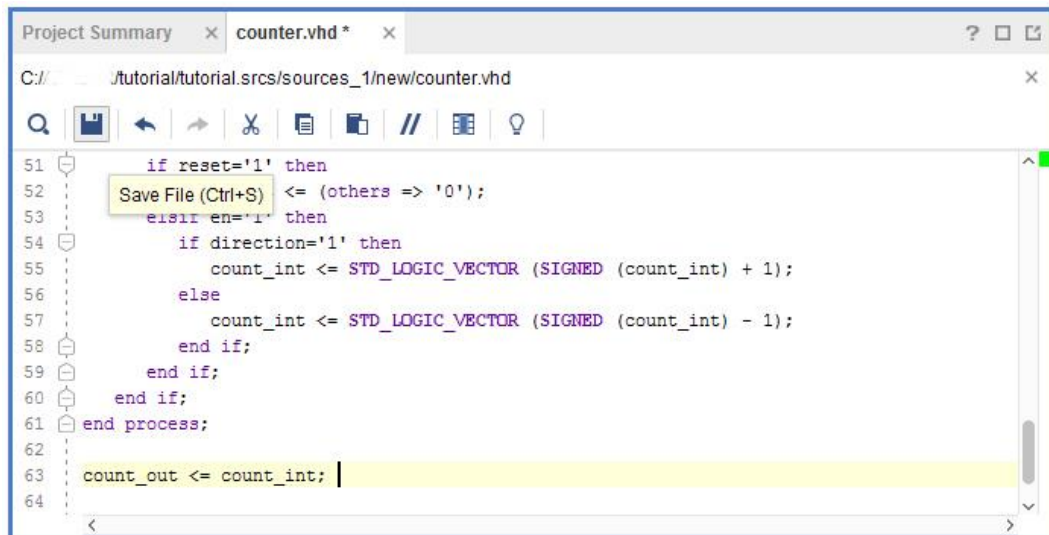

Figure 9
6. Save the file by clicking in the save file icon in the horizontal toolbar of the **counter** design source file window (Figure 9)